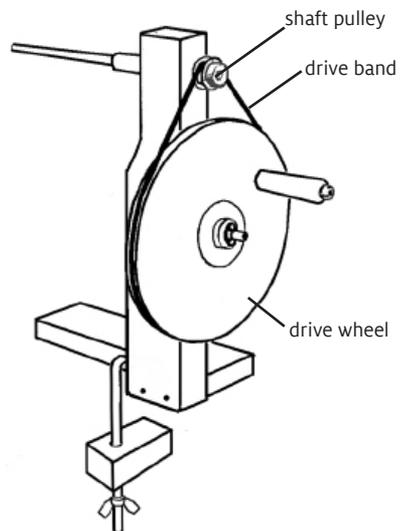

FIGURE 2
3. Tighten the set screw securely with the hex wrench. Install the rubber drive band around the shaft pulley and the drive wheel (figure 2), and you are ready to use your bobbin winder. ■